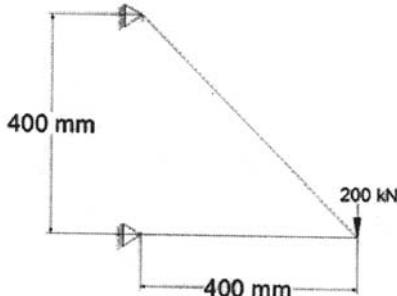

Fig. 1
- Q4)** A two bar Truss is shown in Fig 1. Determine nodal displacements, support reactions and element stresses. Area of both element is 1000 mm² and E = 200 GPa. [10]